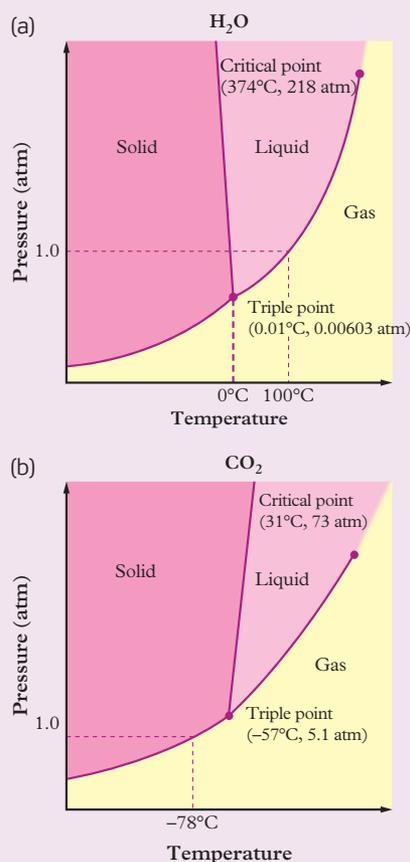

FIGURE 8 Phase diagrams of (a) H₂O and (b) CO₂
- 3 Compare the phase diagrams for water and carbon dioxide (Figure 8).